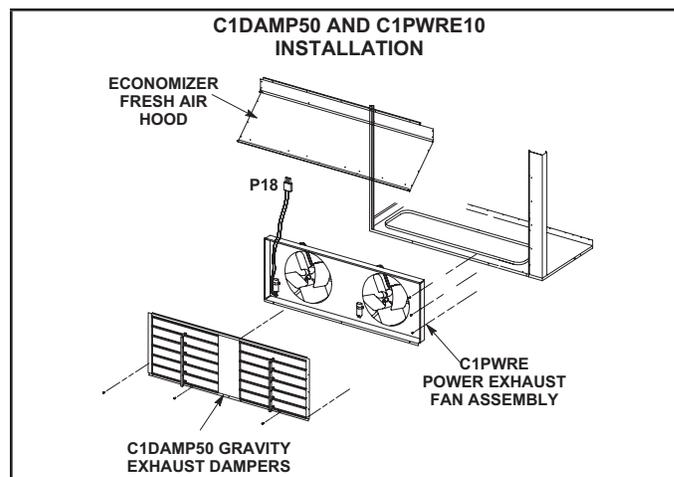

FIGURE 36
C1DAMP50 dampers (FIGURE 36) are used in downflow and LAGED(H)18/24 are used in horizontal air discharge applications. LAGED(H) gravity exhaust dampers are installed in the return air plenum. The dampers must be used any time an economizer or power exhaust fans are applied to KCC series units.
Power exhaust fans are used in downflow applications only. The fans require optional downflow barometric relief dampers and K1ECON economizers. Power exhaust fans provide exhaust air pressure relief and also run when return air dampers are closed and supply air blowers are operating. FIGURE 36 shows the location of the C1PWRE. See installation instructions for more detail.